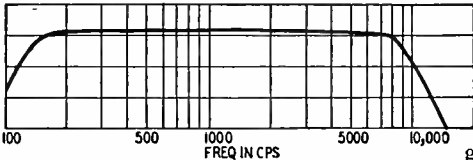

Fig. 3—Response curve of the amplifier.
*amplitude-vs-frequency* method. The output of the amplifier is measured with the v.t.v.m. and recorded on graph paper, while a series of signals of different frequencies but the same amplitude are fed into it. A response curve is drawn through the points marked on the graph paper, plotting the output amplitude against frequency (Fig. 3).